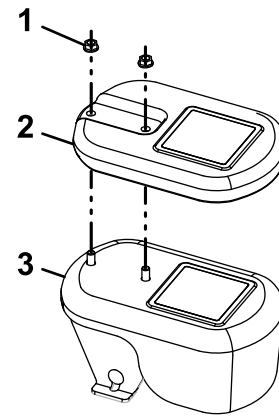

Figure 8
2. Add the flat weight to the weight assembly for a machine with a 122 cm (48 inches) mower deck (Figure 8).